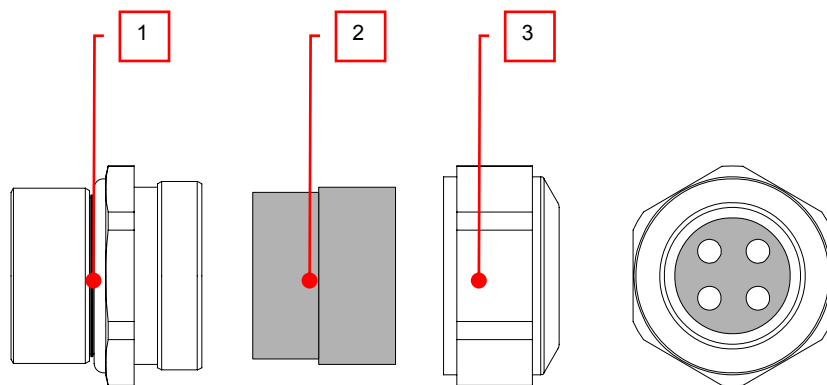

Fig. 4. KDO900 adapter components
Remove the outer ring of the cable gland, thread the installation fibre filaments with connectors through the outer ring (fig. 4 pos. 3), through the sealing insert (fig. 4 pos. 2) and finally through the cable gland (fig. 4 pos. 1).